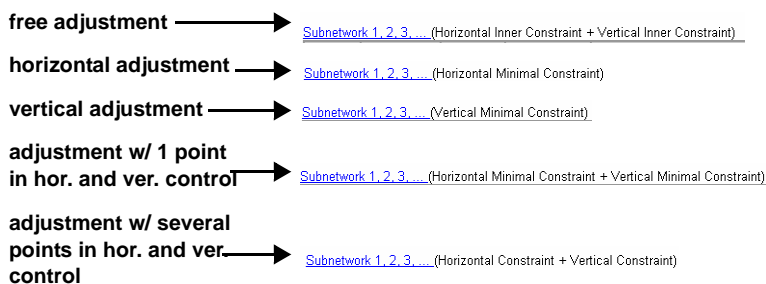

Figure 6-26. Types of Network Adjustments
- The type of the network adjustment, either free (inner) adjustment, horizontal only adjustment, vertical only adjustment, adjustment with one point in horizontal and vertical control, or adjustment with several points in horizontal and vertical control (Figure 6-26 on page 6-22).